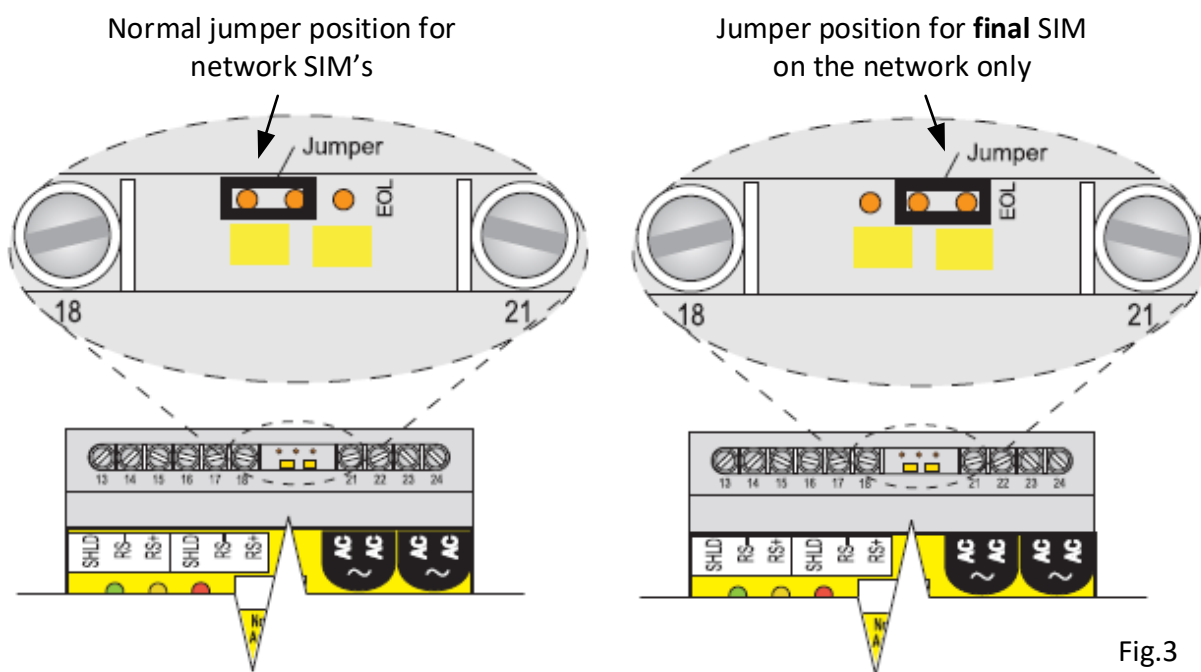

Fig.3
- iii. TT-SIM's have an EOL jumper that must be enabled on the **final SIM on the circuit only**. (Fig.3)